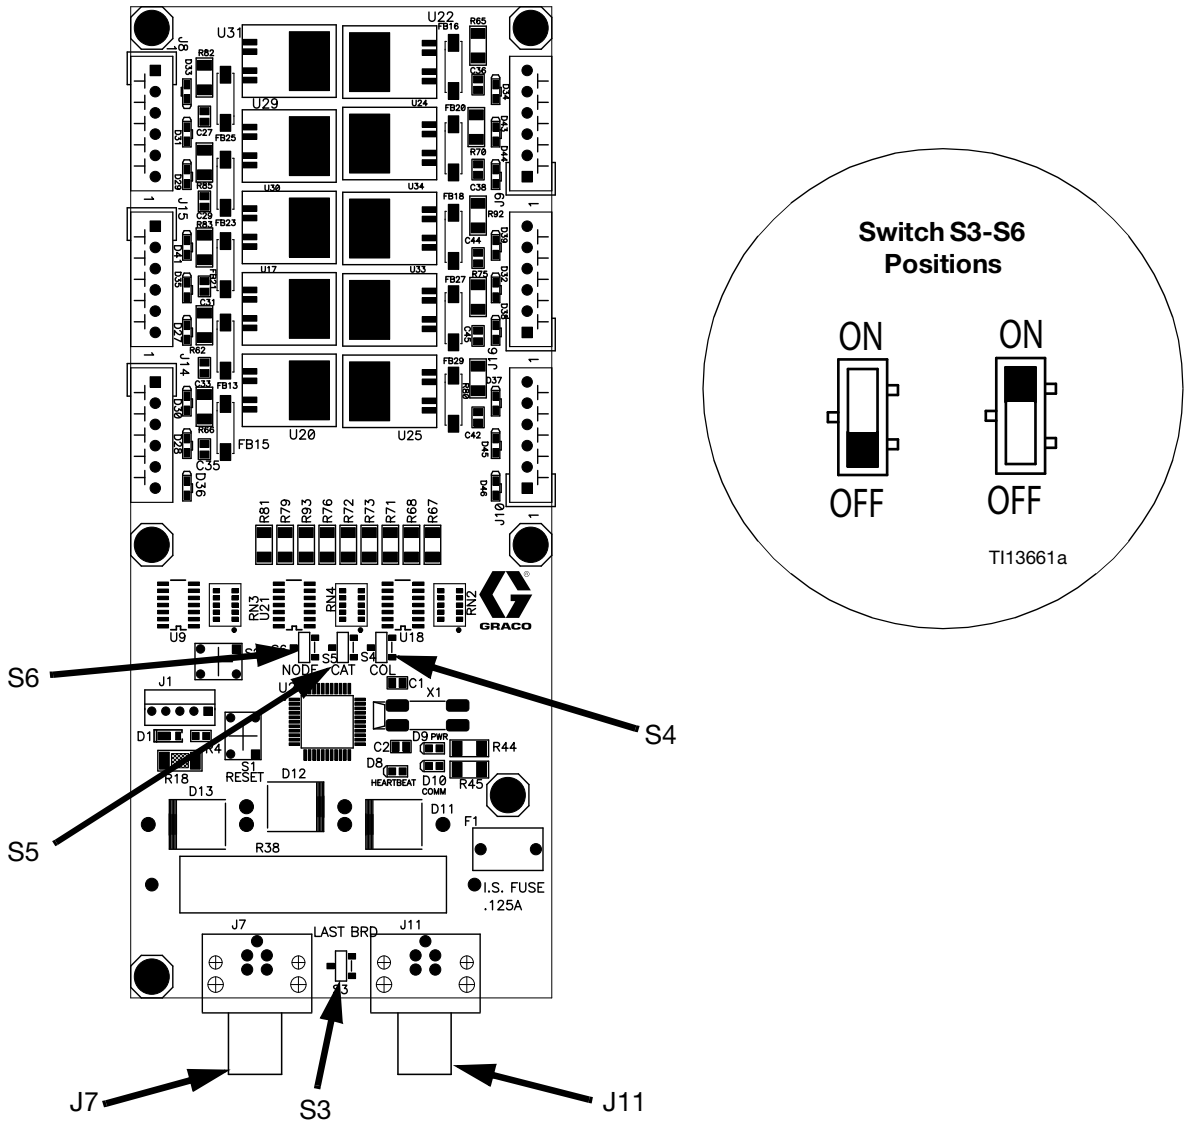

FIG. 5. 256172 Color Change Board Switch Settings
2. See Fig. 1. Connect a 5-pin electrical cable (EC) from the labeled connection port **C.C.** (J11) on the fluid station input control board to the color change board. Also see FIG. 2 and FIG. 5.
If you are using two color change modules to add colors, connect a 5-pin electrical cable from the first color change board to the second color change board. See FIG. 5.
Set switches S3-S6 on the color change board(s) as shown in Table 2 and FIG. 5, depending on the number of color change boards and color change modules being used in your system.